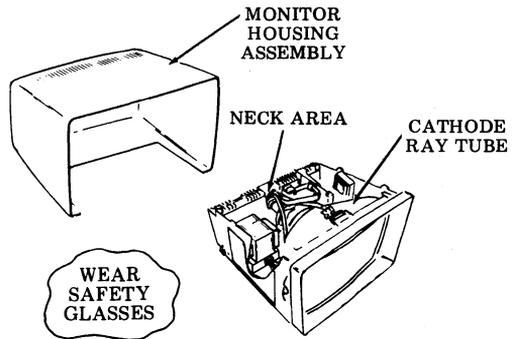

Fig. 1
*Danger 2: Wear approved safety glasses when the housing of the monitor is removed, as the display tube is fragile in the neck area and is subject to implosion if broken. Be careful not to strike the glass of the tube with tools or components when working in its vicinity (Fig. 1).*